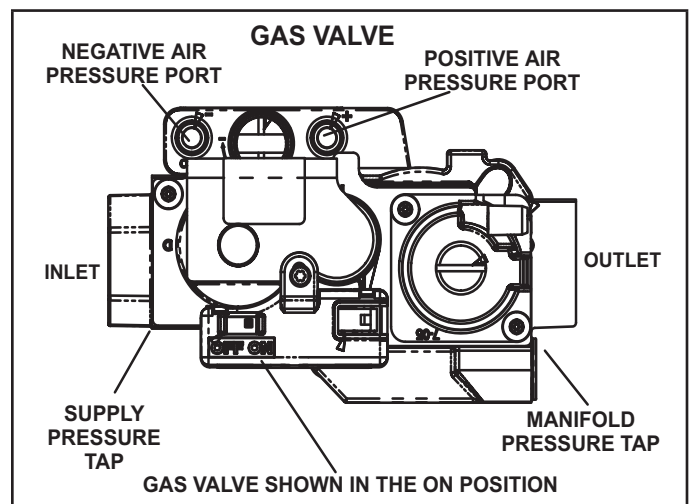

FIGURE 47
### Gas Valve Operation (FIGURE 47)
- 6 - Move the gas valve switch to the OFF position. See FIGURE 47.
- 8 - Move gas valve switch to the ON position. See FIGURE 47. Do not force.
When testing supply gas pressure, connect test gauge to supply pressure tap on the gas valve. See FIGURE 47. Check gas line pressure with unit firing at maximum rate. Low pressure may result in erratic operation or underfire. High pressure can result in permanent damage to gas valve or overfire. See TABLE 32 for operating pressure at unit gas connection (line).